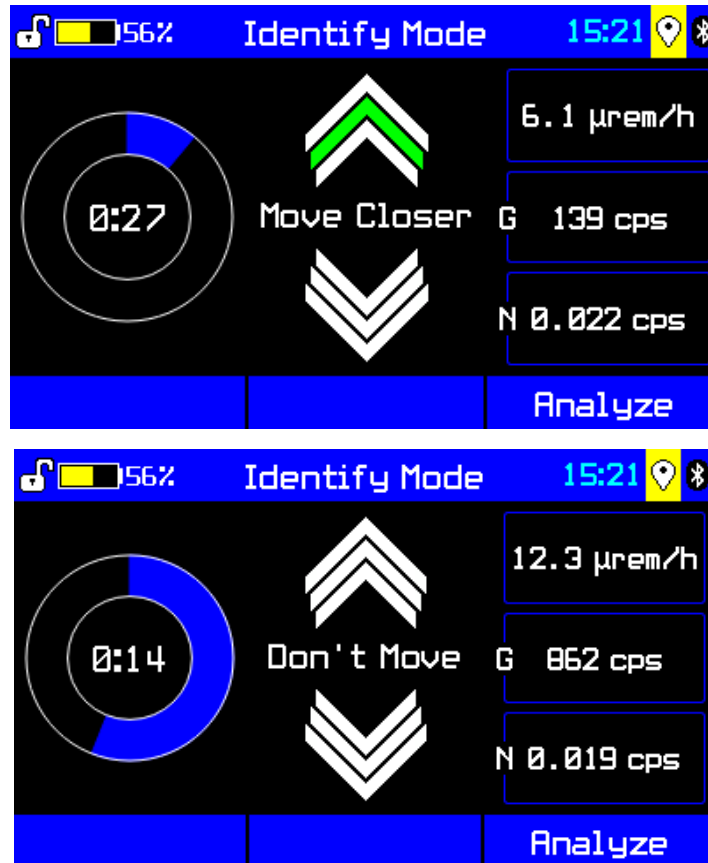

Figure 3-9: Identify mode: Finding the position for best measurements
2. Follow on-screen instructions (such as "Move Closer") that will place the R425 in the correct position for optimal data collection (Figure 3-9, top).
When you are in the correct position, the screen will display "Don't Move" (Figure 3-9, bottom).